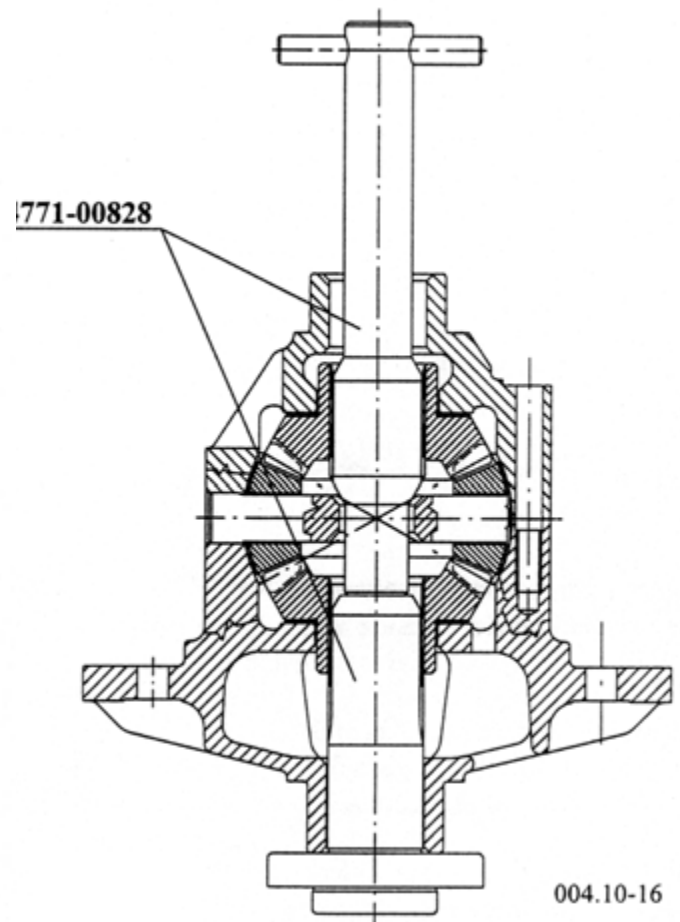

Fig. 2.: MOUNTING AND CHECKING THE DIFFERENTIAL
Place the flanged differential half case (31) into the assemble mandrel (Fig. 2.). Position the differential side washer (26) and differential gear (27) and differential pinion washers (30) with the differential pinion (29) and cross shaft (28). Position the other differential gear and the spacer disc.